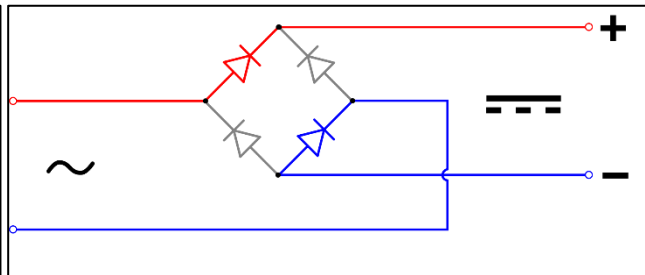

Figure 7 A Bridge Rectifier [13]
3. https://www.researchgate.net/figure/Different-classes-of-piezoelectric-materials_fig7_329228323 ; 1st figure